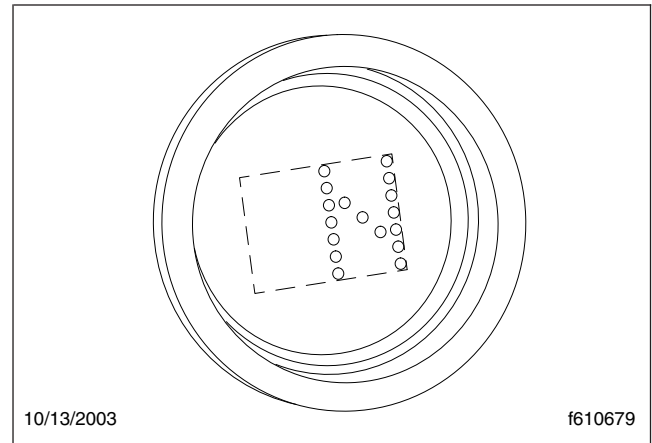

Fig. 14.7, Neutral Display
Neutral (N) is directly below R on the four-position selector switch located at the end of the SmartShift control lever. To select N, press in the neutral lock button and move the selector switch to the position below R. When neutral is selected, the letter N displays on the current gear indicator. See Fig. 14.7.